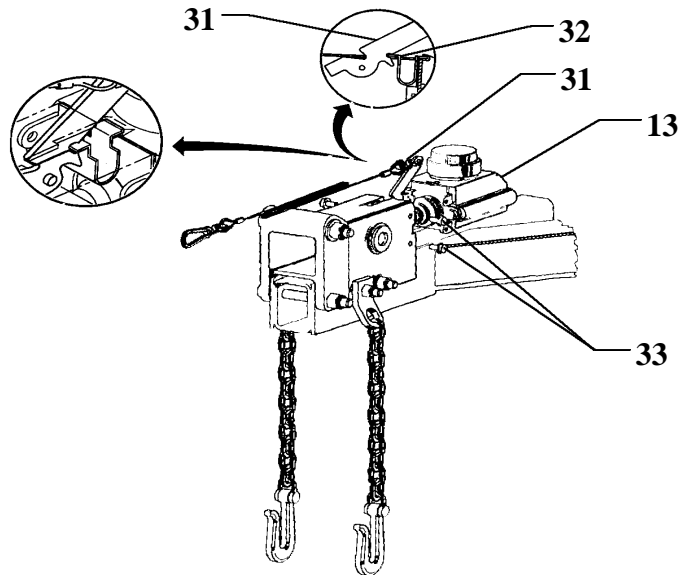

Figure 6
14. Position emergency brake lever/cable assembly (31) and metal "U" clip (32) in cast housing slot prior to master cylinder installation. (figure 6)
15. Install master cylinder (13) using four new master cylinder mounting bolts P/N S630NA84CAG12354BNBA3 (33), (figure 6) torque to 30 ft/lbs +/- 3 ft/lbs.